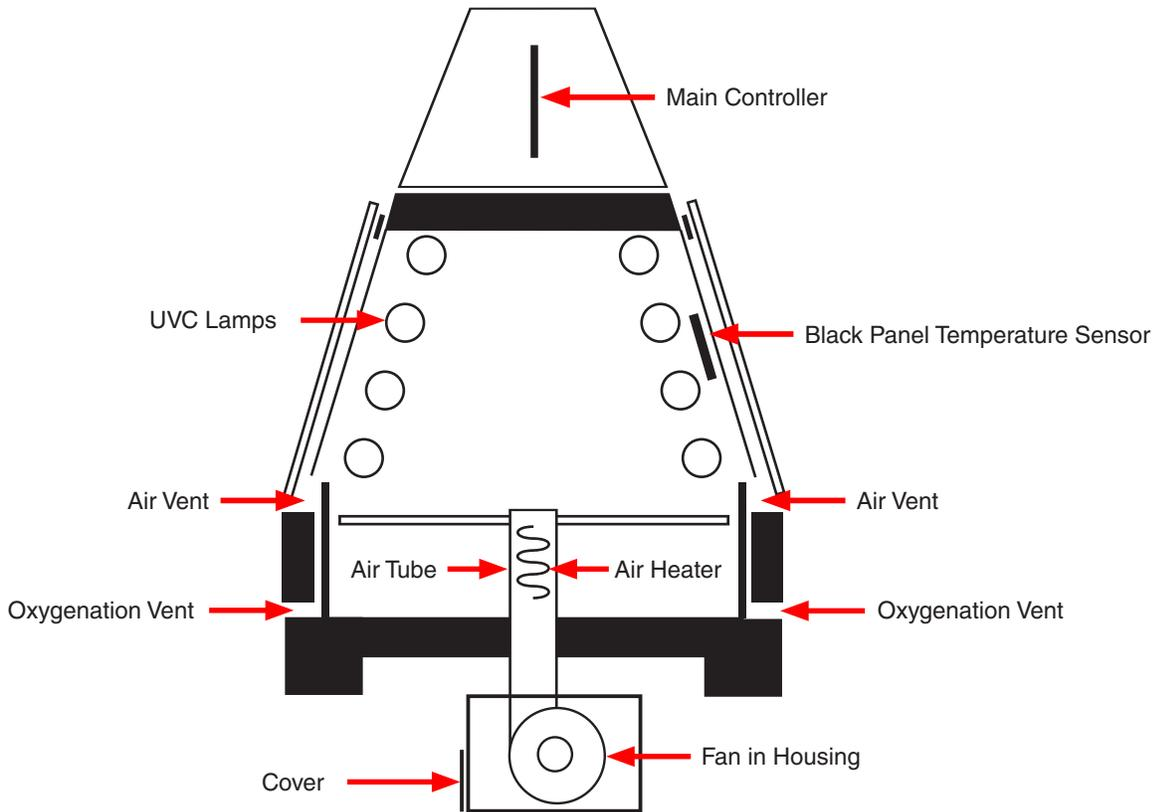

Figure 10.4b: QUV/uvc temperature control schematic.
- Figure 10.4b shows the major components used to control temperature during a test.